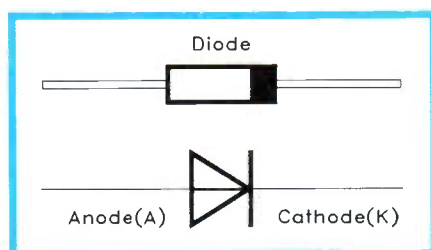

Figure 5. Diode symbol and connections (D1).
c) The next component to be fitted is D1, which is a small tube-like component having a lead at each end of its black body. Like LD1 and LD2, it must be connected the right way round, (in other words, D1 is a 'polarised' component). Its 'polarity' is indicated by a white (or silver) band close to one end of the body, which tells us the way in which it must be positioned. D1, its circuit symbol and connections, are shown in Figure 5. The diode should be fitted so that the band lines up with the band on the drawing of the diode on the guide-sheet.